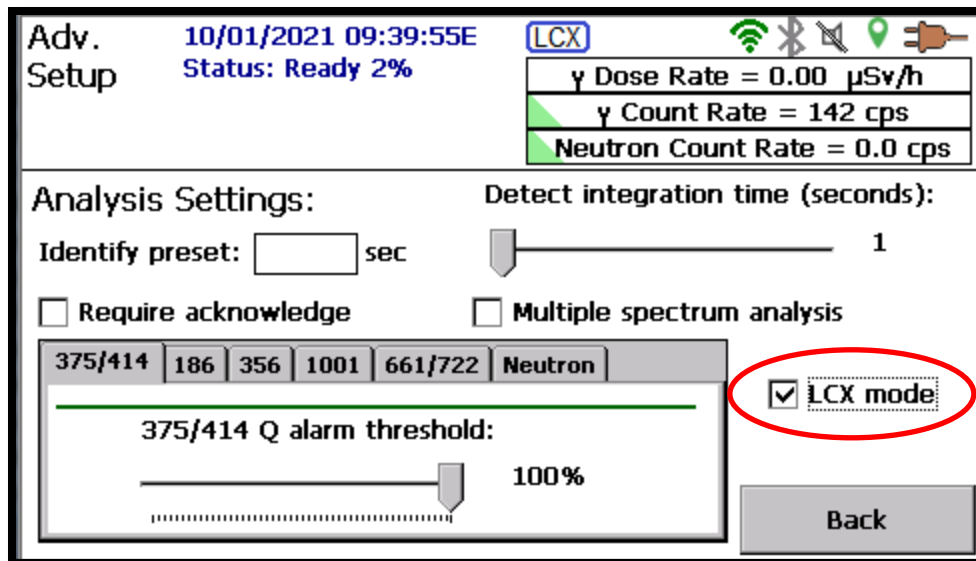

Figure 60. LCX Mode Enable/Disable Checkbox
- To enable LCX Mode, go to the Advanced Settings screen and tap the **Analysis** button. Under **Analysis Settings**, tap the **LCX mode** checkbox (Figure 60) to mark it. The LCX status indicator (**LCX**) will be displayed at the top of the screen.